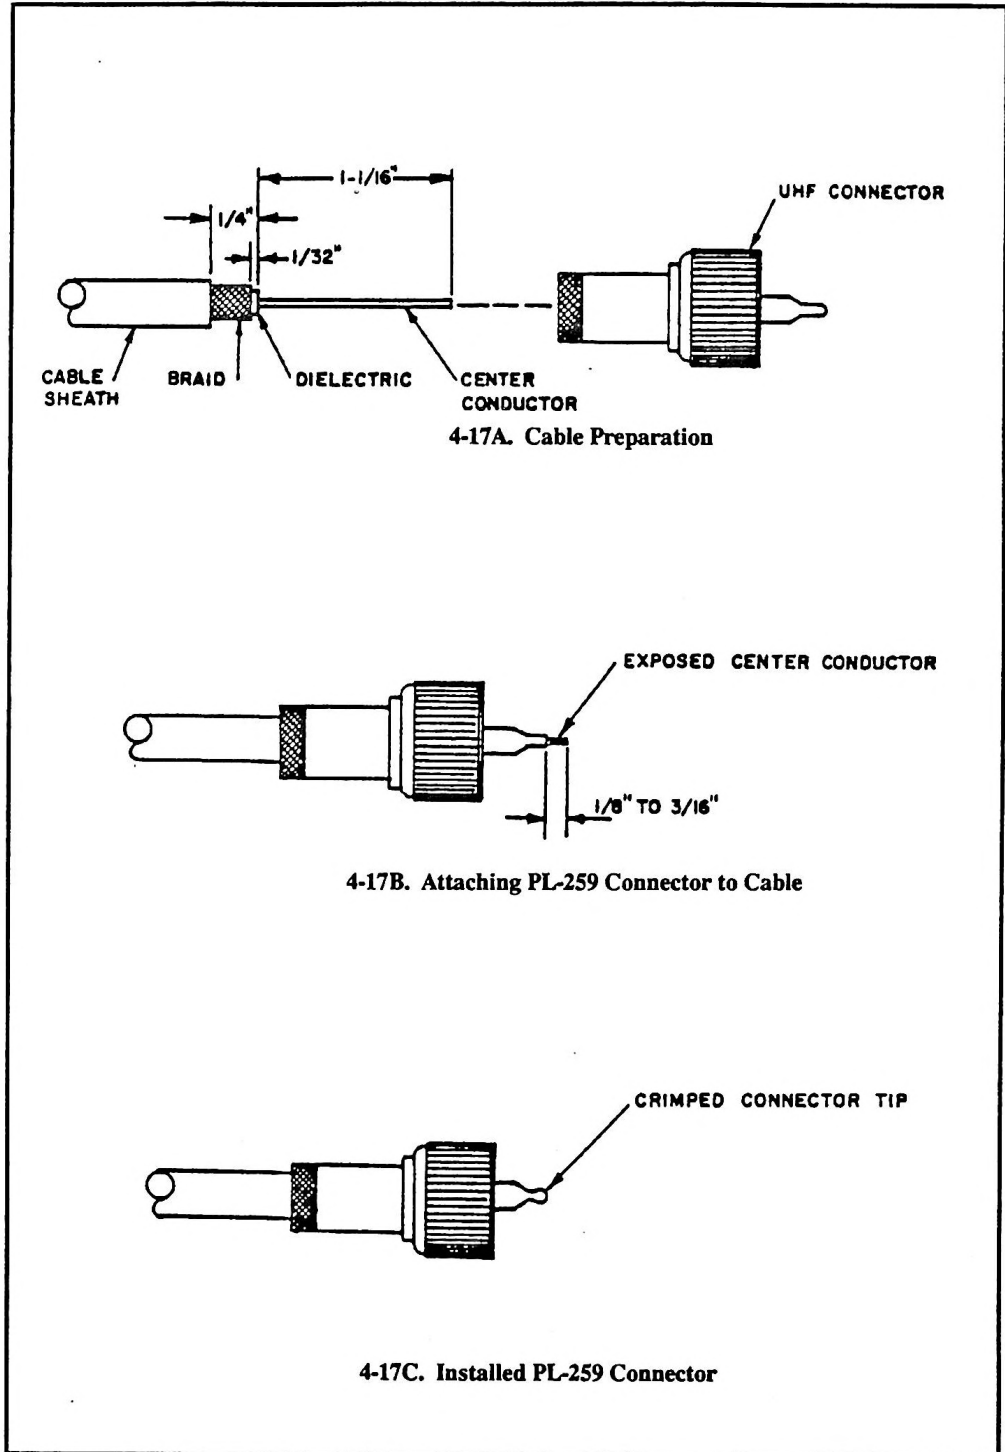

Figure 4-17. PL-259 Installation
2. Refer to Figure 4-17 and install the PL-259 connector on the end of the RG-59/U cable according to the following instructions: